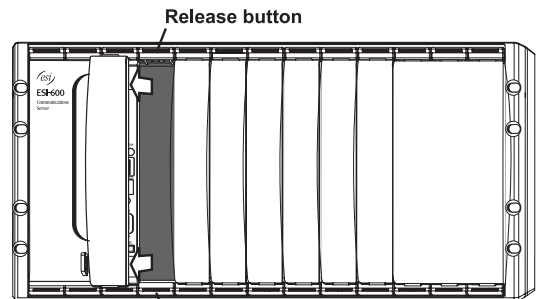

Fig. 1
1. On the desired slot in the cabinet, press the **release buttons** on the top and bottom to release the **blank faceplate** (**Fig. 1**).